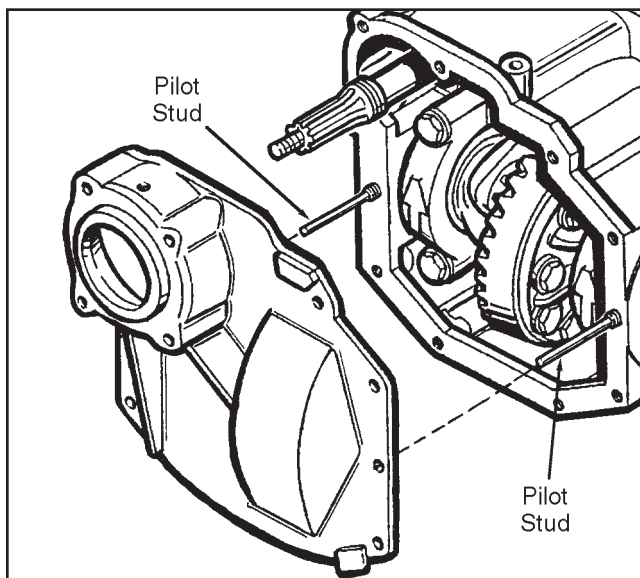

Figure 4I-8. Front Cover Installation
6. Install two 5/16-18 pilot studs in the holes of the cover pilot bushings as shown in Figure 4I-8.